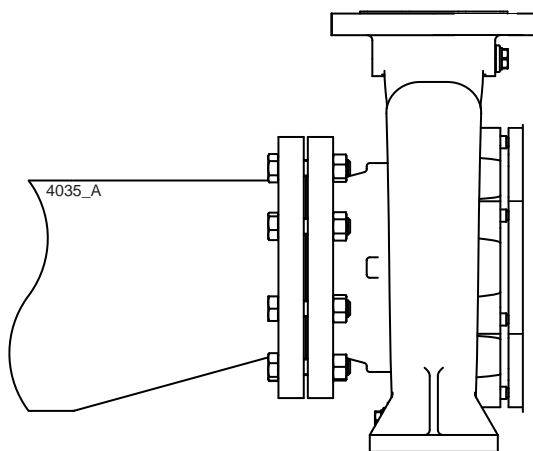

Figure 6: Eccentric reducer to suction flange.
- The passage of the suction pipe must be amply dimensioned. This pipe should be as short as possible and run towards the pump in such a way that no air pockets can arise. If this is not possible, a venting facility should be provided at the highest point of the pipe. If the inside diameter of the suction pipe is larger than the suction connection of the pump, an eccentric reducer should be applied to prevent air pockets and whirls. See figure 6.